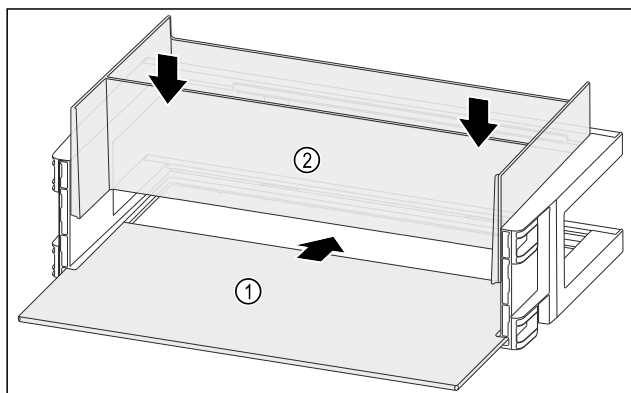

Fig. 143
- ▶ Push the shelf *Fig. 143 (1)* into the side recesses.
- ▶ Insert the organizer *Fig. 143 (2)*.